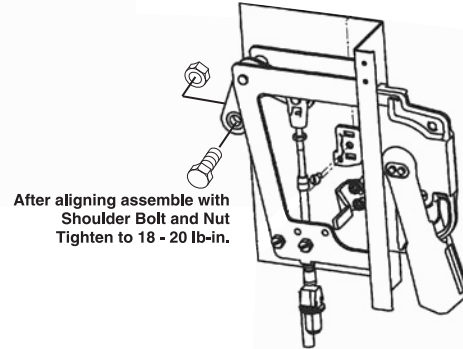

Figure 4 Assembly of Adapter Link to Bell Crank Using Shoulder Bolt
5. Align adapter link with the bell crank. Attach bell crank to adapter link with shoulder bolt and nut. Tighten to specified torque (see **Figure 4**).